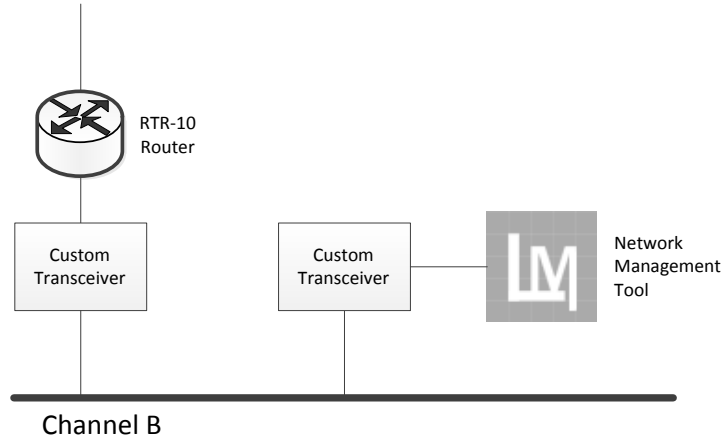

Figure 29. Configuring Side A
8. Attach the selected custom transceiver to Side B as shown in **Figure 29**, leaving the Side B transceiver ID set to 30 (0x1E).
9. Attach a network services tool with a compatible custom transceiver to Channel B, as shown in **Figure 29**.